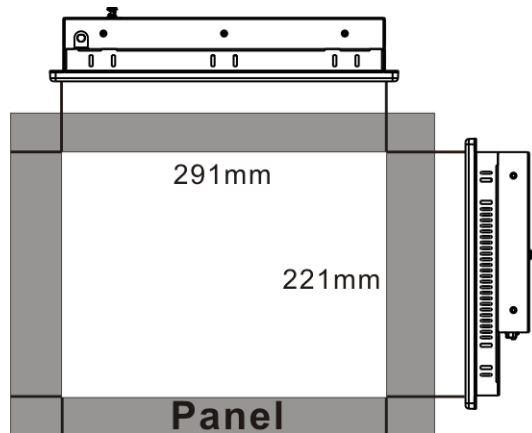
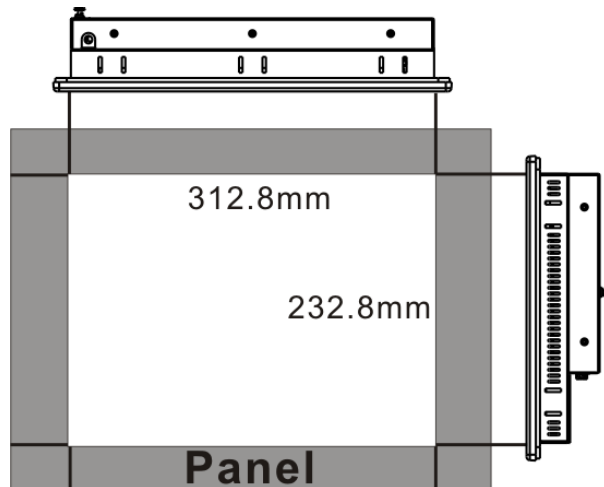

Figure 3-14: PPC-2710 Panel Opening
Figure 3-15: PPC-2712 Panel Opening
- Step 2:** Cut out a section from the panel that corresponds to the rear panel dimensions of the flat panel PC. Take care that the panel section that is cut out is smaller than the overall size of the metal frame that surrounds the flat panel PC but just large enough for the rear panel of the flat panel PC to fit through (**Figure 3-14** and **Figure 3-15**).